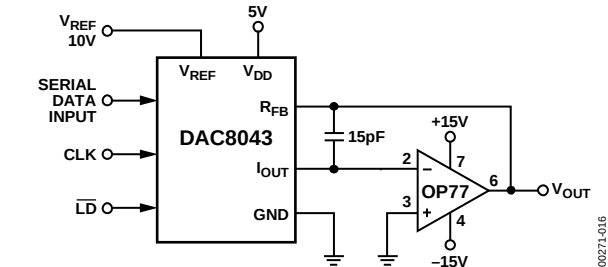
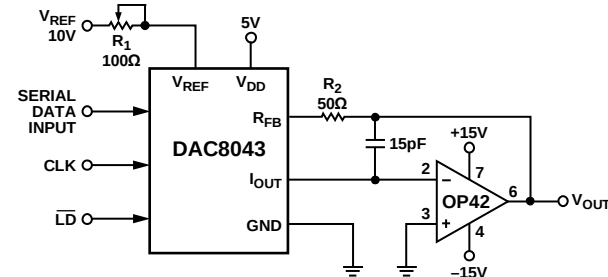
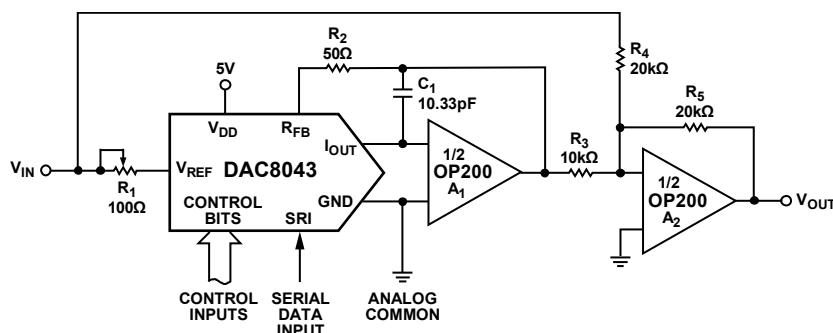

Figure 16. Unipolar Operation with High Accuracy Op Amp (2-Quadrant)
Figure 17. Unipolar Operation with Fast Op Amp and Gain Error Trimming (2-Quadrant)
Figure 19. Bipolar Operation (4-Quadrant, Offset Binary)
1. Phase compensation (see Figure 16 and Figure 17).
In most applications, linearity depends upon the potential of the I_{OUT} and GND pins being equal to each other. In most applications, the DAC is connected to an external op amp with its noninverting input tied to ground (see Figure 16 and Figure 17). The amplifier selected should have a low input bias current and low drift over temperature. The amplifier's input offset voltage should be nulled to less than 200 μV (less than 10% of 1 LSB).
The circuits shown in Figure 16 and Figure 17 may be used with an ac or dc reference voltage. The output of the circuit ranges between 0 V and approximately -V_{REF} (4095/4096), depending upon the digital input code. The relationship between the digital input and the analog output is shown in Table 6. The limiting parameters for the V_{REF} range are the maximum input voltage range of the op amp or ±25 V, whichever is lowest.
Gain error may be trimmed by adjusting R₁, as shown in Figure 17. The DAC register must first be loaded with all 1s. R₁ may then be adjusted until V_{OUT} = -V_{REF} (4095/4096). In the case of an adjustable V_{REF}, R₁ and R₂ may be omitted, with V_{REF} adjusted to yield the desired full-scale output.
¹ Nominal full scale for Figure 16 and Figure 17 circuits is given by
² Nominal LSB magnitude for Figure 16 and Figure 17 circuits is given by
Figure 19 details a suggested circuit for bipolar, or offset binary, operation. Table 7 shows the digital input to analog output relationship. The circuit uses offset binary coding. Two's complement code can be converted to offset binary by software inversion of the MSB or by the addition of an external inverter to the MSB input.
MSB LSB	(V _{OUT} as Shown in Figure 19)
¹ Nominal full scale for Figure 19 circuits is given by
² Nominal LSB magnitude for Figure 19 circuits is given by
The transfer function for the DAC8043 connected in the multiplying mode, as shown in Figure 16, Figure 17, and Figure 19, is